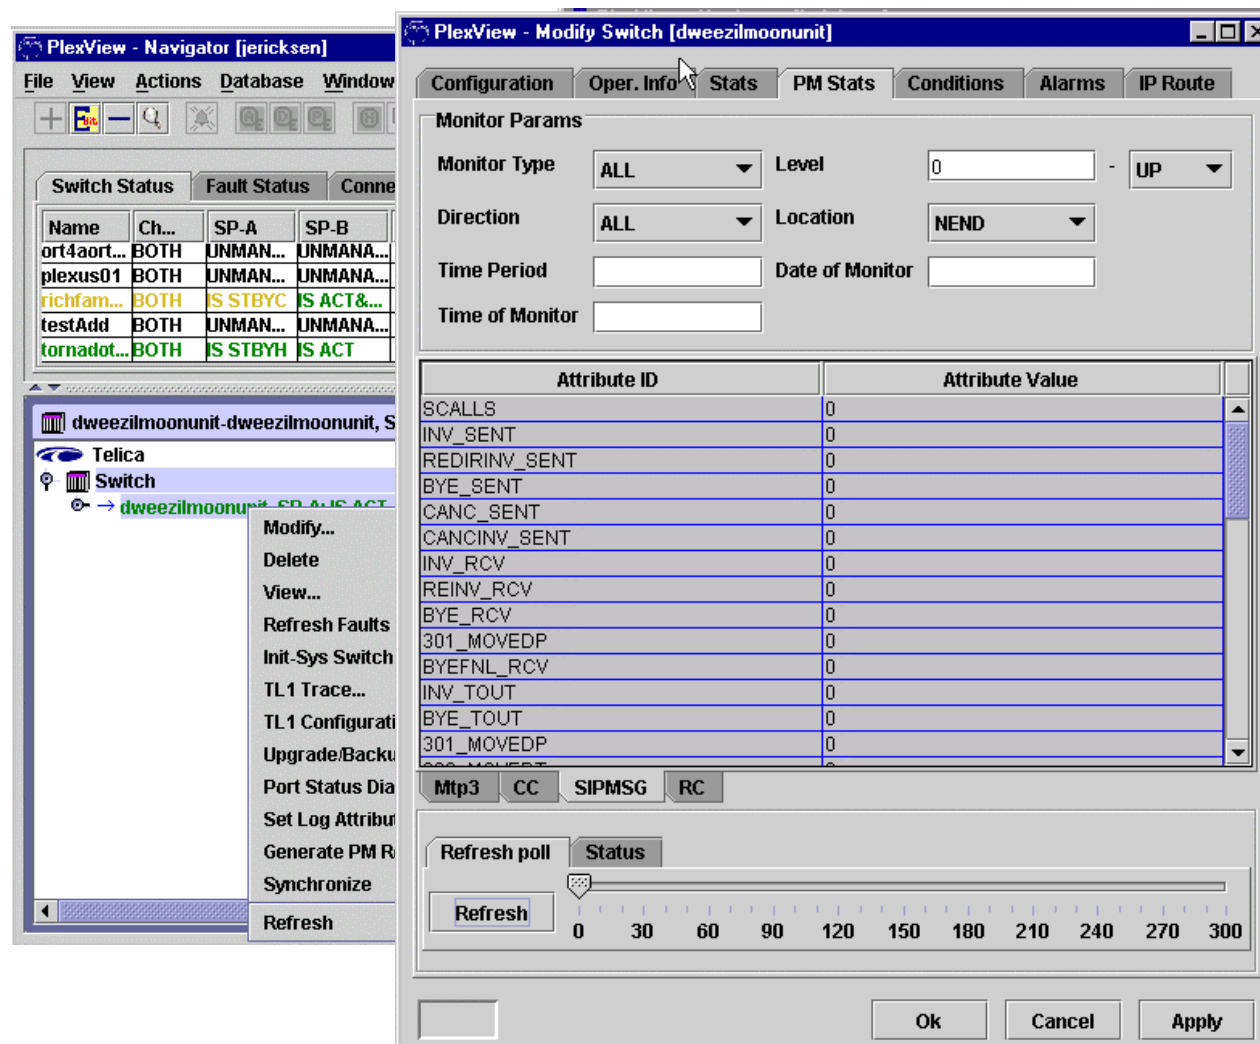

Figure 1. PM Stats of SIP Messages
4. Retrieve current and historical performance data related to SIP messages by double-clicking the switch, right-clicking the *switch name*, clicking *View* and then selecting *PM Stats* tab near the top and the *SIPMSG* tab near the bottom. See Figure 1. Reference **DLP-644** for detailed information for the command.
8. Initialize registers or event counters for SIP) message statistics by double-clicking the switch, right-clicking the switch name, clicking *Modify* and then selecting the *PM Stats* tab near the top and the *SIPMSG* tab near the bottom. Make required changes and then click *Ok* or *Apply*. See Figure 1.